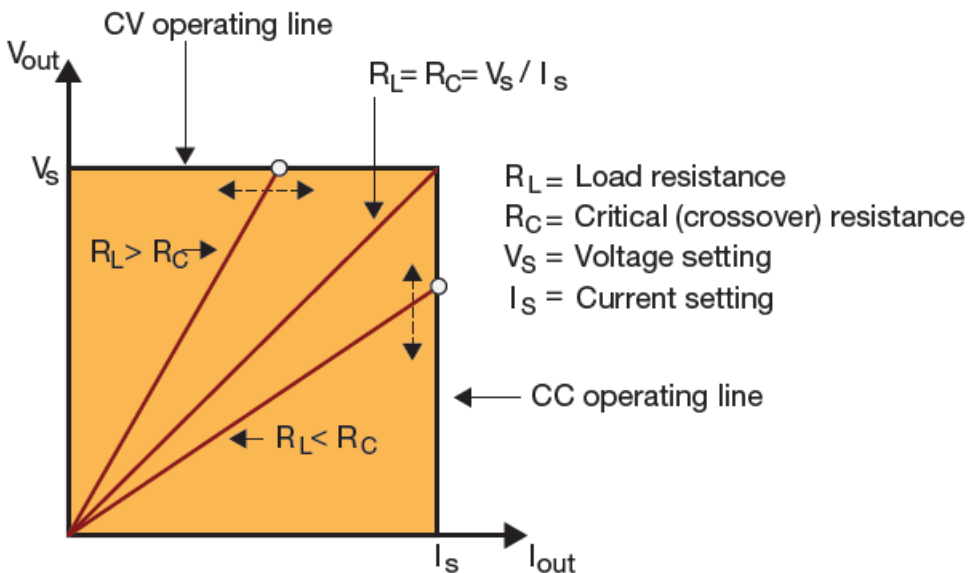

Figure 1. Power supply output characteristic
A power supply will operate in CV mode, provided the load does not require more current than the current limit setting. Based on Ohm's law, $V = I \times R$, maintaining a constant voltage while changing the load resistance requires the current to increase or decrease. As long as the current draw $I_{out} = V_s / R_L$ is less than the current limit setting, the power supply regulates the output at the voltage setting. In Figure 1, the power supply will operate on the horizontal line V_s with $I_{out} = V_s / R_L$.
If the load resistance decreases, such as when a device under test (DUT) component fails, and the load resistance, R_L , is less than R_C , where R_C is the ratio of the power supply voltage setting to the current limit setting, the power supply will regulate the current instead. Again, Ohm's law dictates a change in voltage if the current stays constant at the current limit setting. This is the CC mode. In Figure 1, the power supply will operate on the vertical line I_S with $V_{out} = I_S \times R_L$.
- The load resistance is R_C , the value at which the output will cross over from CV to CC or CC to CV (see Figure 1).